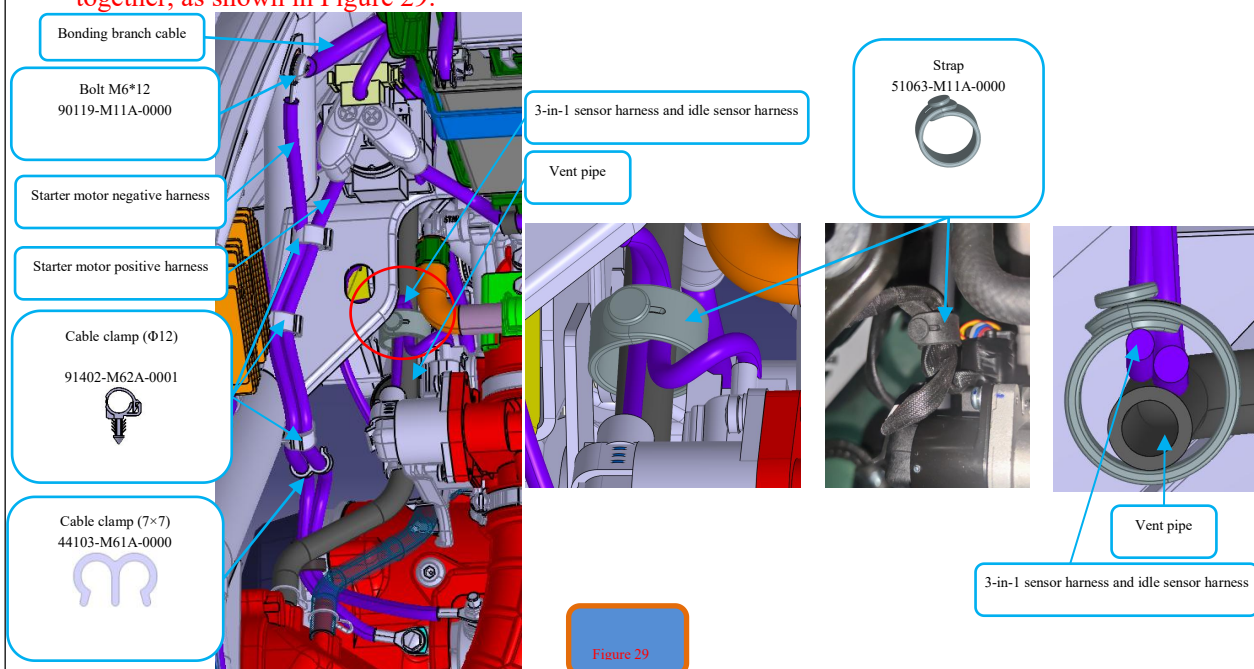

Figure 29
(7) Route the starter motor harness as shown in Figures 29, 30, and 31. Secure it to the engine with one cable clip (91406-E05-0500) and to the frame with three cable clamps (Φ12) (91402-M62A-0001). Use a cable clamp (7×7) (44103-M61A-0000) to secure the two harnesses together at the section between the engine and the frame.
- Use a strap (51063-M11A-0000) to secure the 3-in-1 sensor harness, idle sensor harness, and vent pipe together, as shown in Figure 29.